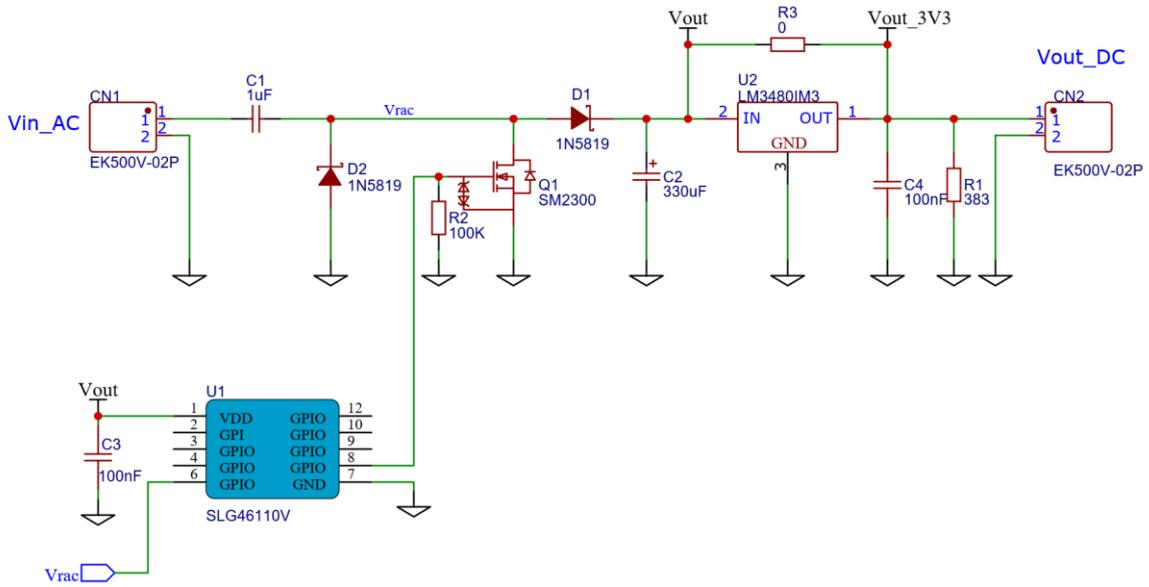
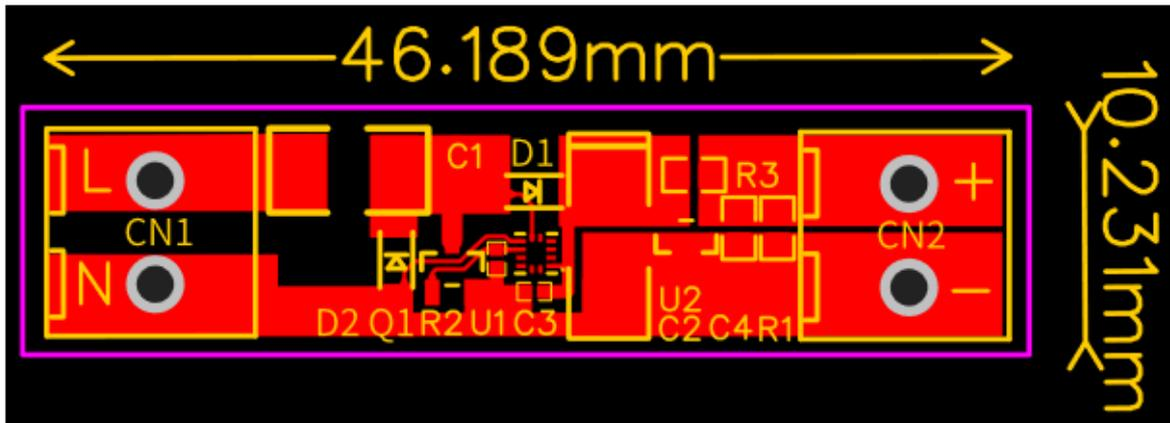
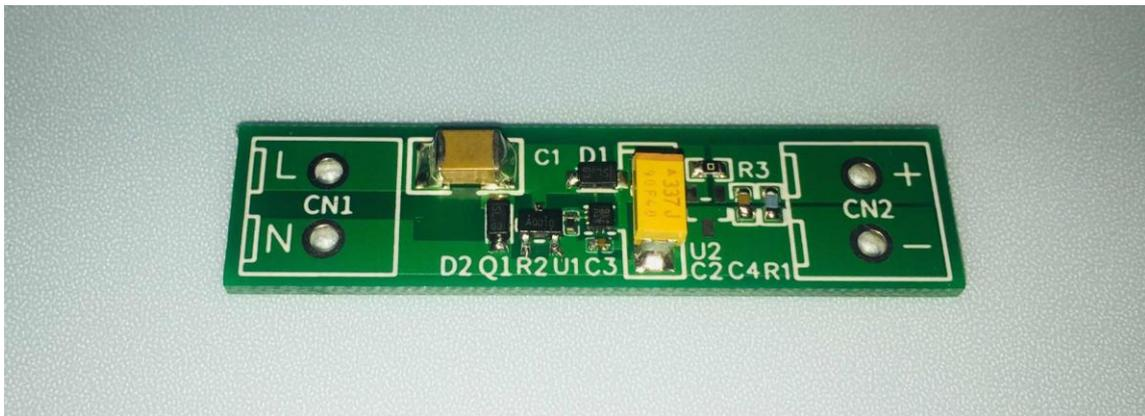
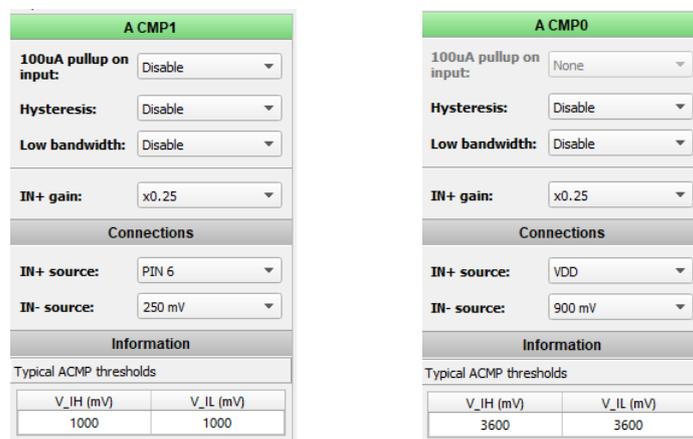

Figure 3: CCSS Regulator Schematic
Figure 4: CCSS Regulator PCB Layout
Figure 5: CCSS Regulator Prototype
Figure 7: ACMP0 and ACMP1 Configuration Settings
Figure 3 depicts the circuit schematic of the low power AC-DC converter module. It uses the SLG46110 (U1) to control the CCSS. The module operates at an input AC voltage range from 90V to 260V(CN1), and over a non-isolated output of 3.3V (CN2). An optional LDO (U2) is added after the V_{out} to further stabilize the output voltage. The SLG46110 device generates the control signal that switches the MOSFET shunt (Q1) based on the V_{out} and V_{rac} threshold levels. 1N5817 Schottky diodes were used for D1 and D2. Since the dissipation factor (DF) of C_s has a large effect on the efficiency of the circuit, a $1\mu F$ capacitor with a relatively small DF of 40×10^{-4} is used for C_s . Figure 4 shows a picture of the PCB Layout of the board. Figure 5 shows a photograph of the complete design PCB described in this app note.
As shown on Figure 3 VDD of the SLG46110 device is connected to V_{out} and PIN6 to V_{rac} . ACMP0 is used to sense V_{out} voltage. With the additional logic, it will turn off the MOSFET shunt when $V_{out} < 3.6V$. ACMP1 is used to sense V_{rac} voltage. It will turn on the MOSFET shunt when $V_{rac} < 1V$. Refer to Figure 7 for the ACMPs settings.